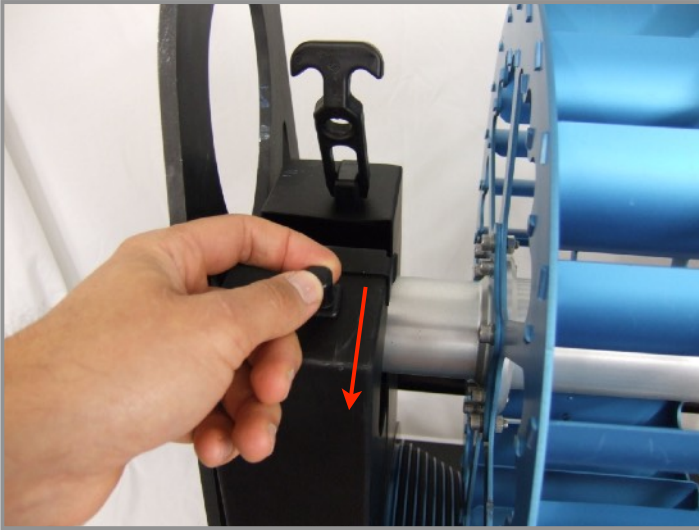

Figure 7
2. Pull back the retractable half of the belt guard (figure 7).